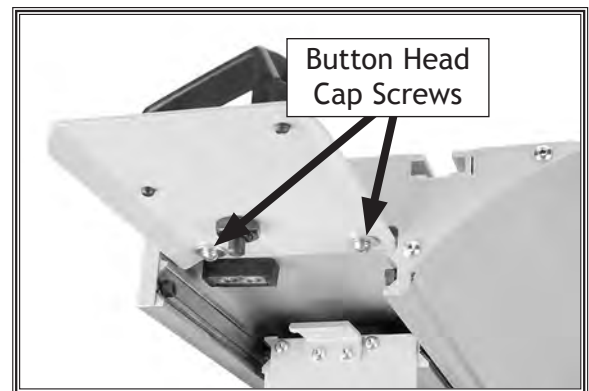

Figure 30. Sliding table handle attached to end of sliding table.
25. Attach the sliding table handle, as shown in Figure 30, with two premounted button head screws and flat washers.